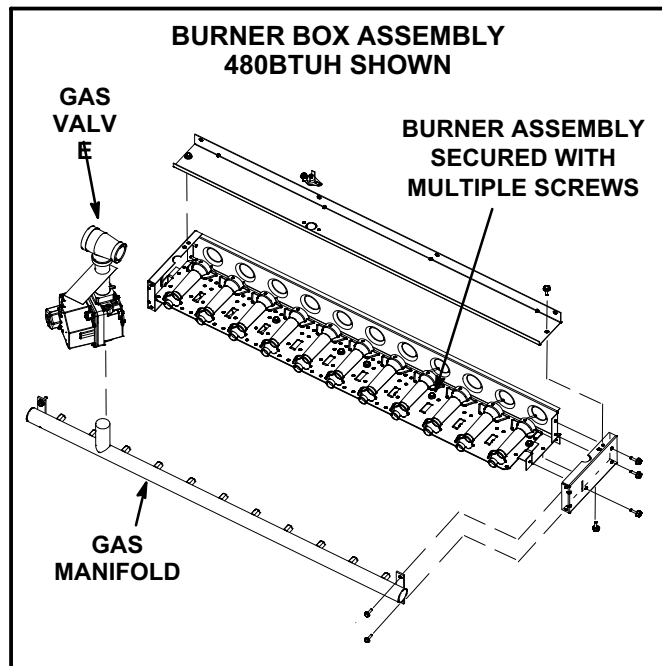

FIGURE 41
- 3- Remove screws securing burner assembly to burner support and remove assembly. See figure 41. Clean as necessary.